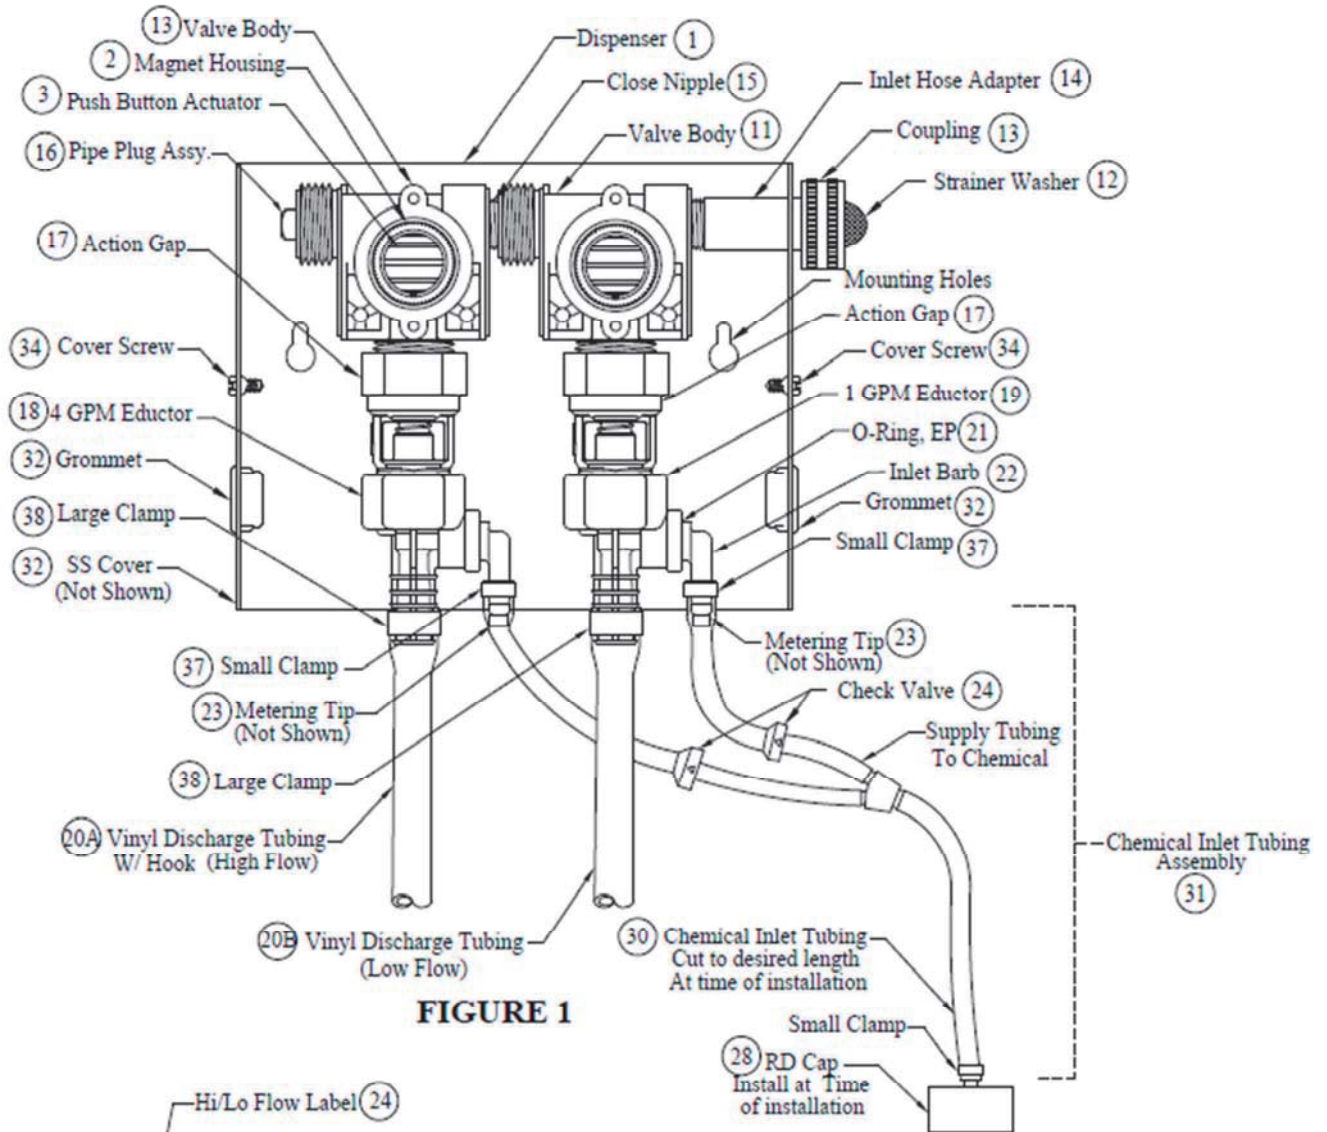

FIGURE 1
Caliber Dispensing System Parts List (Refer to Fig. 1 and 2)
- Cut the tubing to desired length that will allow it to extend from the top of the chemical container to the eductor inlet barb. (See Figure 1).